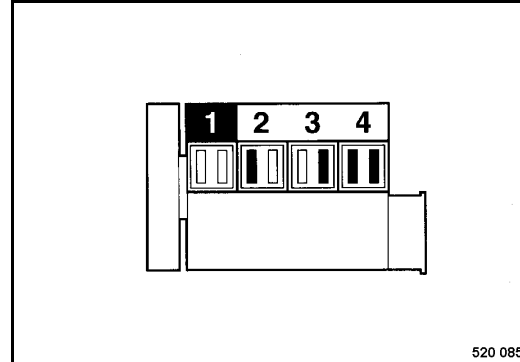

Fig. 166
- Crank the engine with the starter until both valves on cylinder 1 (Fig. 166) are "overlapping".
The valves marked black (Fig. 166) can be checked and adjusted.